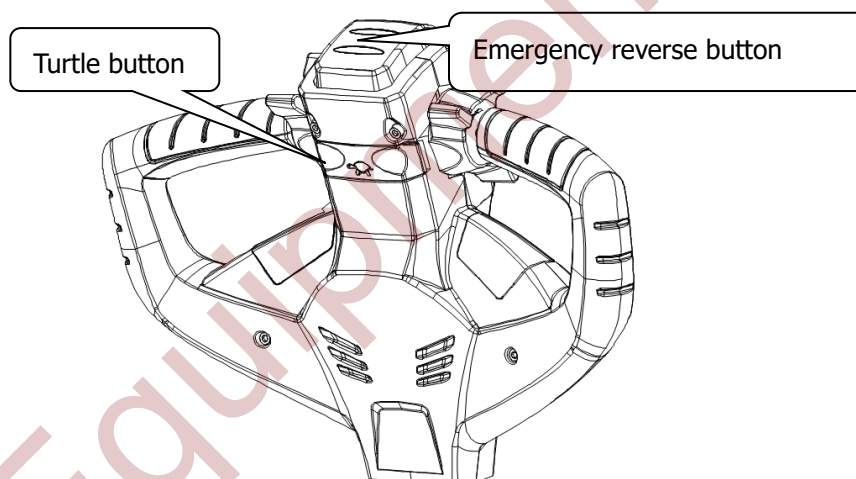

Fig.4
- The truck has the function of low-speed travelling. As shown in Figure 4 ,there is a turtle button at the back of the handle. When the truck is energized, keep the handle in section B, then keep pressing the turtle button, meanwhile, rotate the accelerator knob, the truck will drive in a low speed. The truck returns back to the fast-speed state when releasing the low-speed button.
- Fig 4 The red button at the end of the handle is the emergency reverse button, the truck will stop immediately and move backwards for a distance when the body touch the emergency reversing button. It is a safety button which avoids the extrusion of the truck to protect the operator from injured when it meets the obstacles.